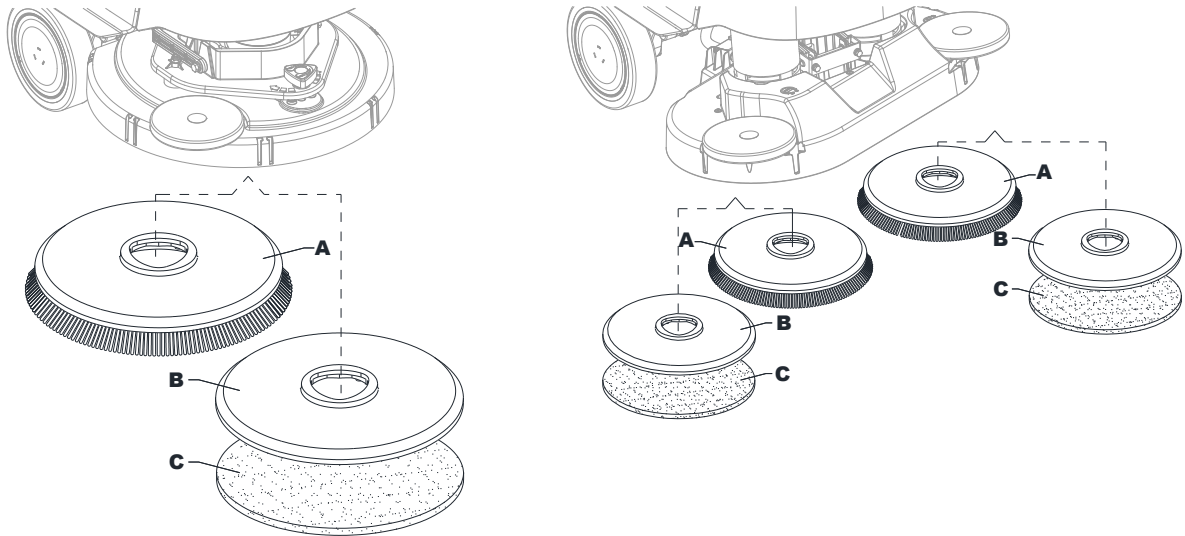

Figure 4
According to the kind of cleaning to be performed, the machine can be equipped either with the brush (A, Fig. 4) or the pad-holder (B) with pad (C) together with the appropriate deck.
1. Place the brush (A) or the pad-holder (B) under the brush deck (39) / Dual disc deck (43).
2. Press power button (62) and enter password to start machine. Roto dial button (67) to select brush click on/off mode (71), press Start / stop / select button (61) to confirm.